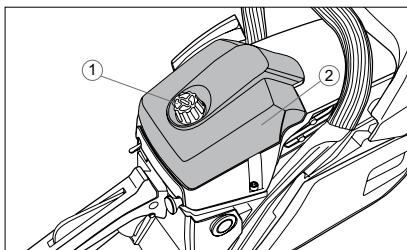

Fig. 24
1. Unscrew the retainer 1 (fig. 24) and remove the air filter cover 2.